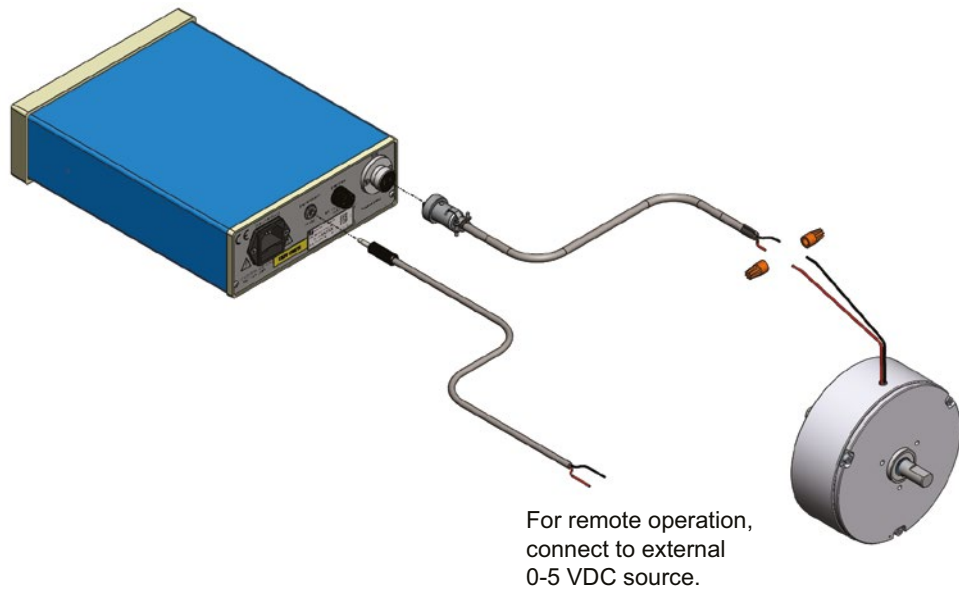

Fig. 2-1 Brake or Clutch connection
2. Using the brake cable provided, connect a brake or clutch to the cable as shown in Fig. 2-1. Use the supplied wire nuts to attach the cable to the brake.